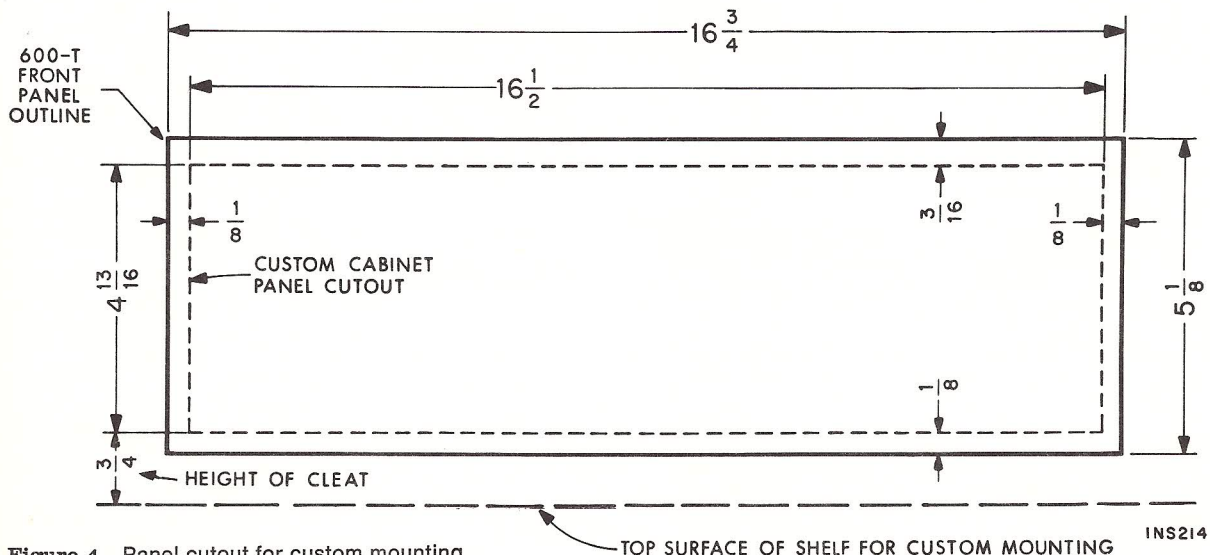

Figure 4. Panel cutout for custom mounting
(3) Saw a cutout through the front panel of your cabinet to the dimensions shown in Figure 4. The distance be-